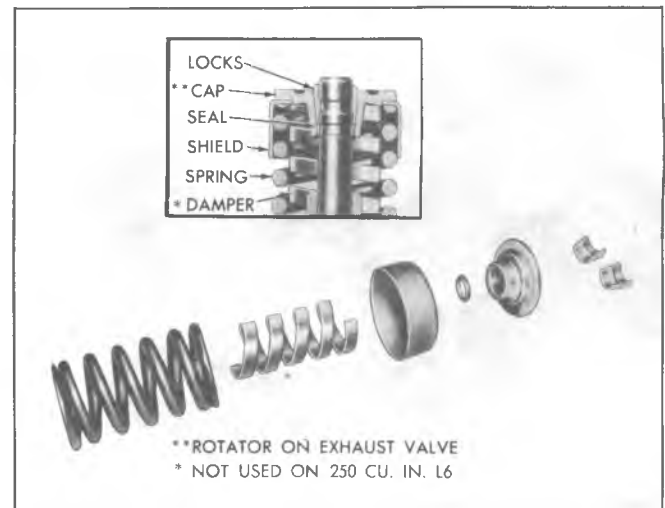

Fig. 6A1-17--Valve Spring Installation
4. Check valve spring tension with Tool J-8056 spring tester (fig. 6A1-16).